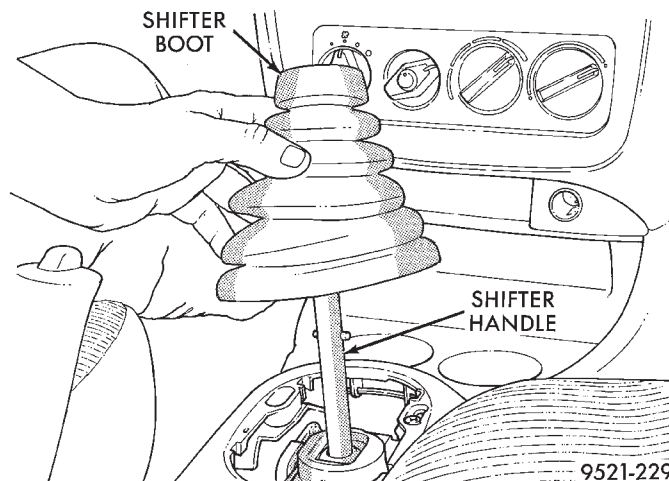

Fig. 123 Boot Removal
- Remove the shifter boot from the center console. Shifter boot is removed by squeezing the bezel together at the base of the shifter boot and pulling upward on the boot (Fig. 123).